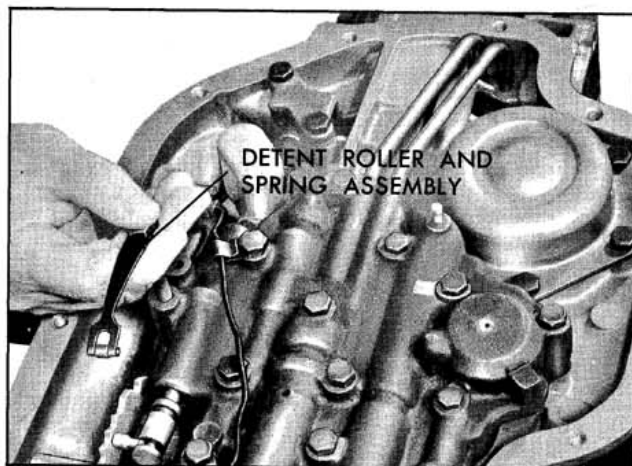

Fig. 6-35 Removing Detent Roller and Spring Assembly
1. Remove the control valve body attaching bolts, detent roller spring assembly and clips. (Fig. 6-35)